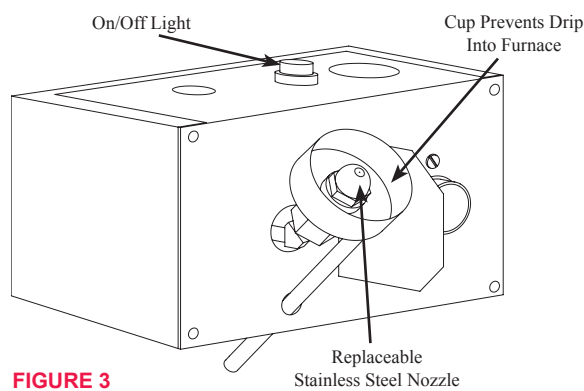

FIGURE 3
- Install the drain cup over the nozzle; attach it with a #6 x 3/8 in. (0.95 cm) sheet metal screw. (See Figure 3, left.)